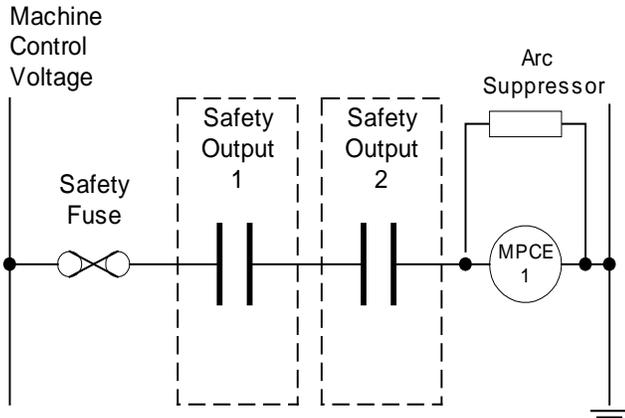

Figure 23 - Interfacing a Machine with 1 MPCE
- Normal risk machine - These usually have a single MPCE. In this case both normally open safety outputs should be used together as shown in **Figure 23**.
To protect the contacts of the safety output relays from the effects of switching inductive loads, an appropriately rated power factor correction device must be installed across the MPCE coils. **Figures 23 and 24** show Arc Suppressors used for this purpose. Arc Suppressors are user supplied.
SAFETY FUSES: It is good practice to protect the safety relays against welding due to a current surge. This can be done by current limiting designs in the machine's controls, or by simple fusing as shown in **Figure 23 and 24**. The current through the safety output contacts should be limited to a level below that which could cause the contact to weld. Fuses with a current rating less than that of the output contacts should be used.